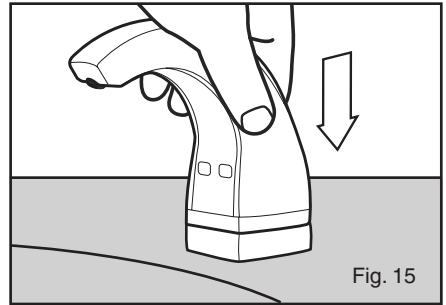

Fig. 15
16. Align the threaded soap discharge shaft and above counter spacer and press down firmly to secure adhesive. (see figure 15)